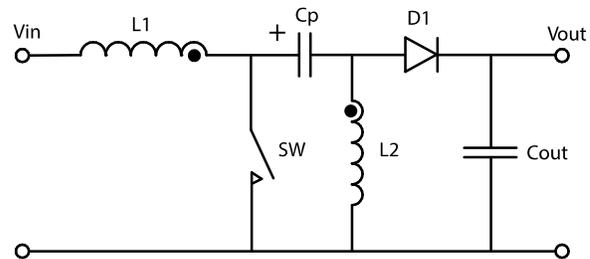

Figure 1. Simple SEPIC circuit
Figure 1 shows the simple circuit diagram for a SEPIC, during the switch (SW) ON time the voltage across both inductors is equal to V_{in} . This is obvious for L1, however it is not so clear for L2. In order to understand this we first need to look at the voltage across C_p , neglecting ripple voltage, this voltage is constantly at the value of V_{in} . The simplest way to see this is when the circuit is at equilibrium, under these conditions there is no DC voltage across L1 or L2, so one side of the capacitor is at V_{in} and the other at zero volts. When the switch is ON capacitor C_p is connected in parallel with L2, hence the voltage across L2 is the same as the capacitor voltage, $-V_{in}$. This in turn means that diode D1 is reverse bias and the load current is being supplied by capacitor C_{out} . During this period energy is being stored in L1 from the input and in L2 from C_p .